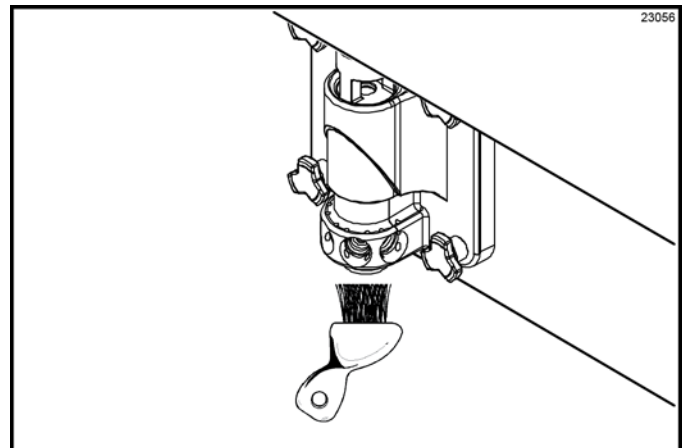

Figure 6-74
3. Return to the freezer with a small amount of sanitizing solution. With a pail below the door spout, dip the door spout brush into the sanitizing solution. Brush clean the door spout, the bottom of the driven spinner, spinner blade, and the syrup line fittings. (See Figure 6-74.)